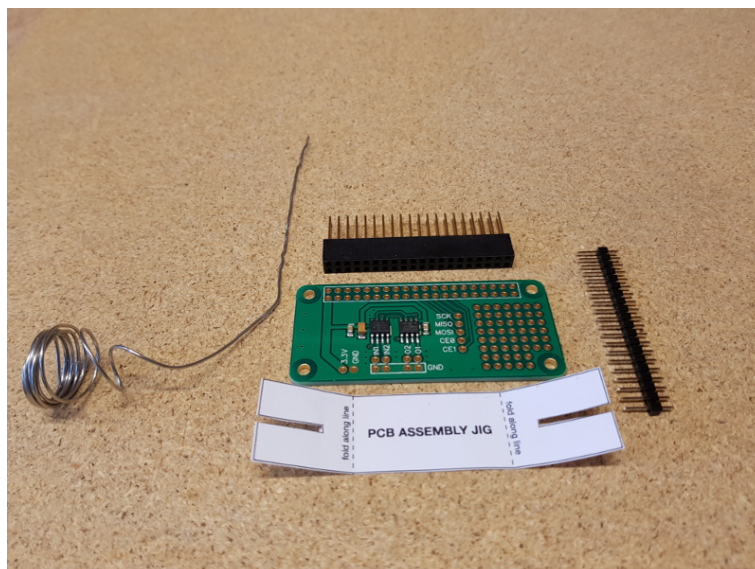

Figure 4: Parts for assembling the ADCDAC.
- (a) The ADCDAC is delivered unassembled. The parts are shown in Figure 4.